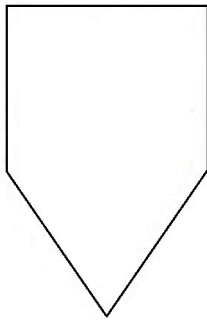

FIG. 1
**Step 1:** Cut 1/2" plywood to desired shape (Fig.1). Find area on shield where you want your arm to rest. Mark a place above the below the palm of your hand, this is where you will be placing the handle. Mark a line above and below your forearm, this is where the belt will go (Fig. 2). Before moving to step two, make absolutely sure your arm is where you want it!